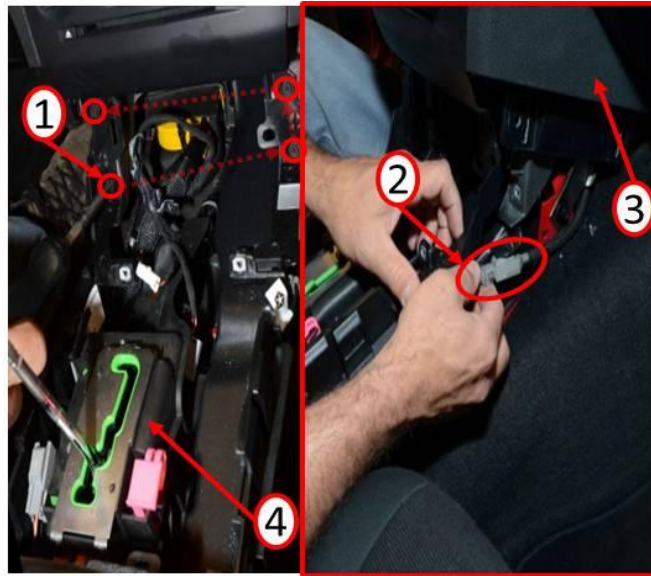

Fig. 5 Reposition Console
- 8. Remove the four screws (1) that secure the front of the console to the instrument panel (3) (Fig. 5).
- 9. If equipped, disconnect the USB jumper harness (2) (Fig. 5).